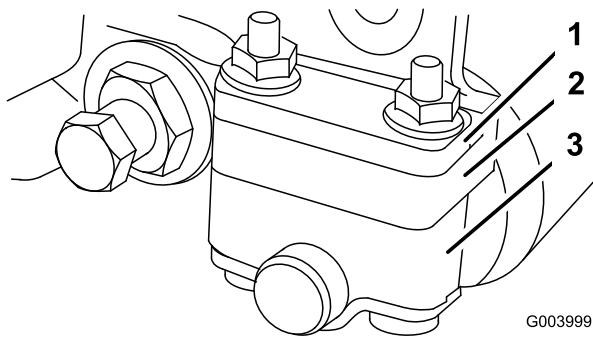
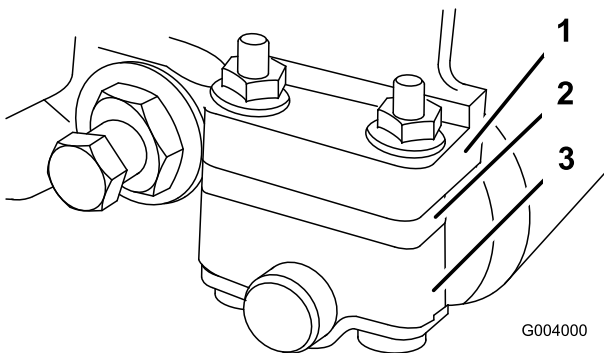

Figure 50
Figure 51
1. Adjust the rear roller brackets to the low or high position depending on desired height of cut range (Figure 50 and Figure 51).
- Position the spacer below the sideplate mounting flange when height of cut settings range from 1/8" to 1" (Figure 51).